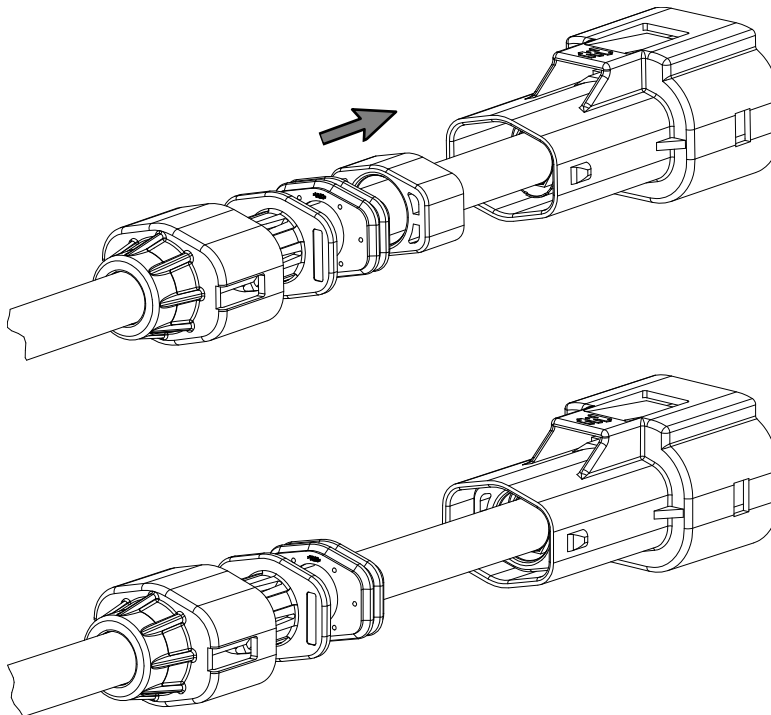

Figure 15
14. Slide the spacer forward on the cable and into the cable exit end of the connector assembly until it stops against the inside of the connector outer housing as shown in Figure 15.